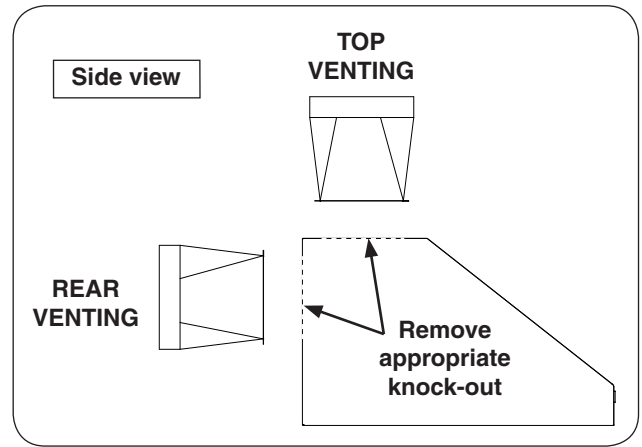

Fig. 14-1 Remove knock-out (top or rear)
1. Before mounting the transition onto the unit, remove the appropriate knock-out required for your installation (see Fig. 14-1).